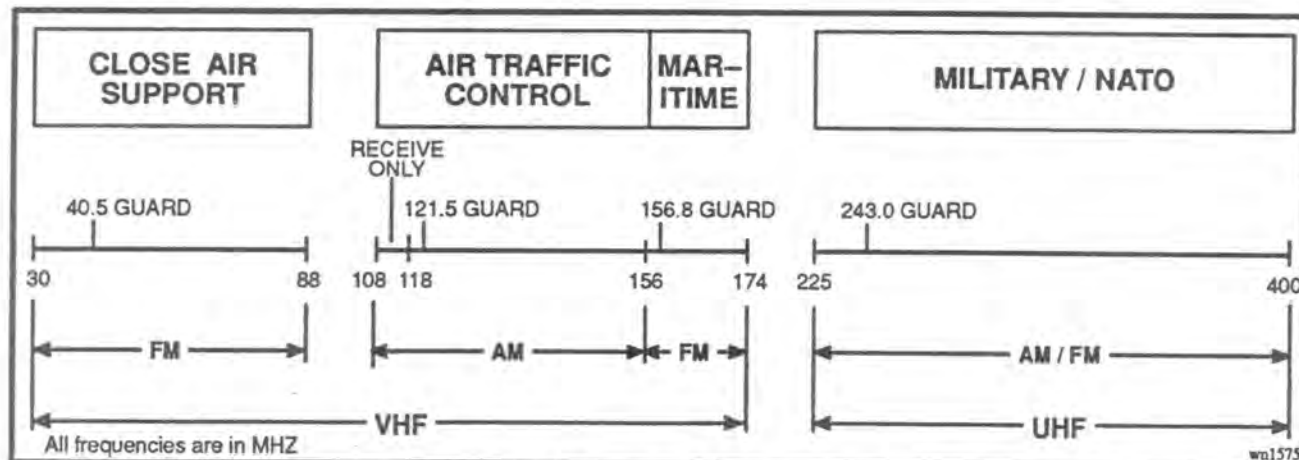

Figure 7-12 ARC-182 Frequency Bands
7.117 The AN/ARC-182(V) VHF/UHF AM/FM radio consists of a receiver-transmitter located in the forward engine compartment, and an antenna located directly behind the cockpit canopy. The radio provides two-way AM/FM communication in 25 kHz increments over a frequency range of 30 to 399.975 MHz within four bands as illustrated in Figure 7-12. Monitoring of four guard frequencies is permitted dependent on the band that the main receiver is operating in. Tuning and control of the radio is via the UFC and DU. On/off/volume control is located on the audio panel. Transmission is accomplished by forward pressure on the throttle comm switch. When tuning a VHF channel, the ARC-182 will automatically change to AM or FM, whichever is required. When tuning a UHF frequency, the AM/FM selection must be made by the pilot via the systems page on the DU. (The default setting is AM).